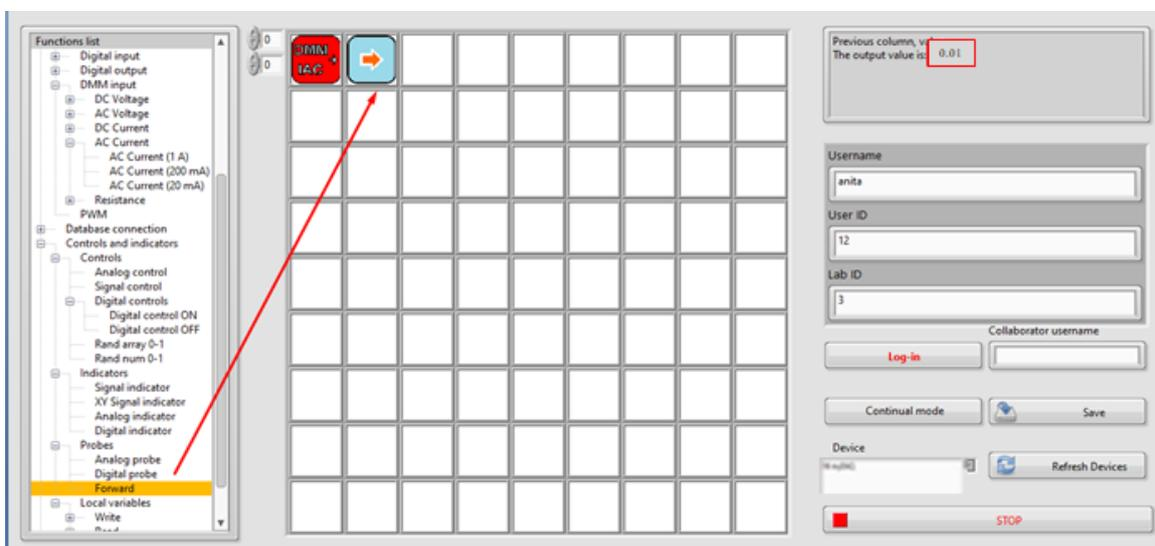

Figure 5.5: Reading the measured value of the current
Step 6. The measured effective value of the current is read by placing the "Forward" function on the desktop, next to the digital ammeter (Figure 5.5).